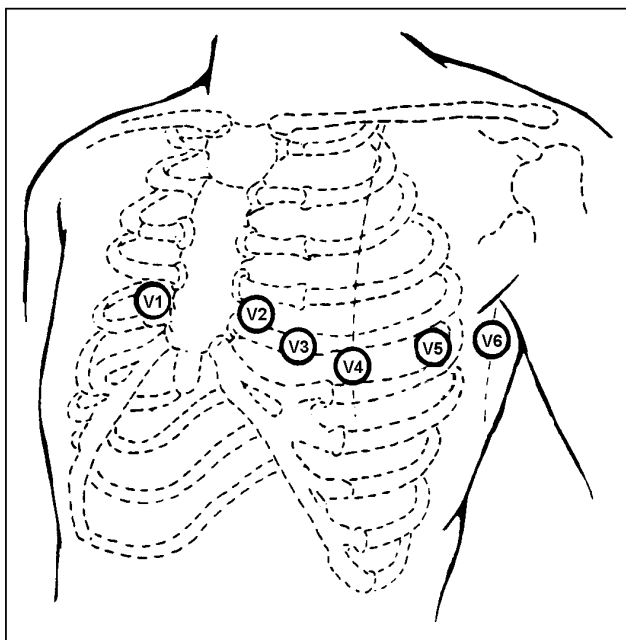

Figure 3-2
- b. Position the electrodes, being careful to place them over the intercostal spaces and not directly over the ribs (see Figure 3-2).